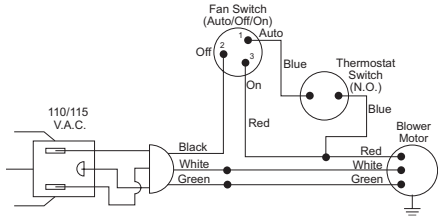

Figure 21 - Wiring Diagram For Blower Accessory Built-In Installation
3. A licensed electrician must follow the wiring diagram to connect incoming electrical supply to fan kit wiring harness (see Figure 21).